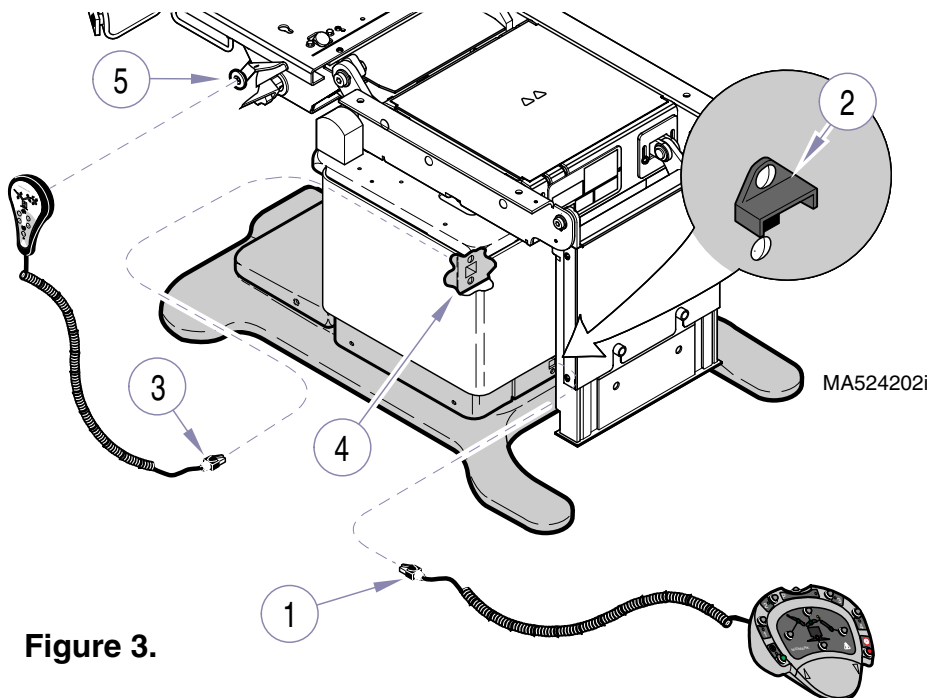

Figure 3.
1. Insert foot control cord (1, Figure 3) into foot control receptacle (2).